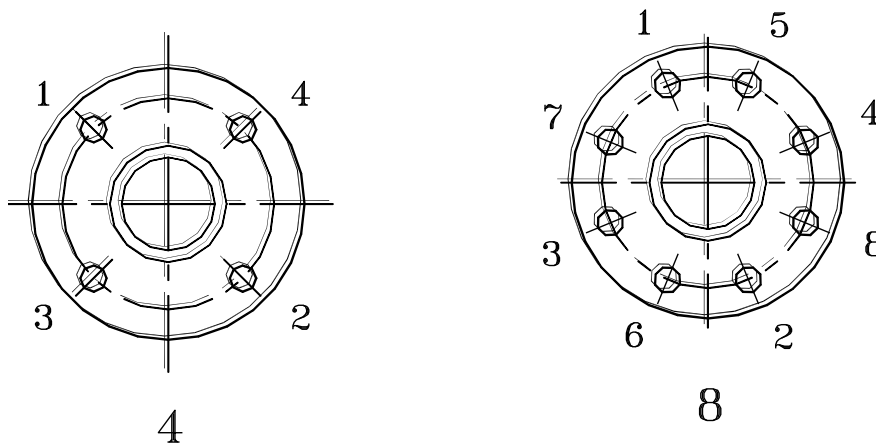

Figure 2 Bolt Tightening Sequence
- Use an appropriate sized torque wrench when tightening the bolt/nut, to avoid flange deformation. Please follow Fig 2 and Table 1 for bolting sequence and bolting torque. If the bolting quantity is different from the chart shown, please follow the same principle to get a new sequence to follow.